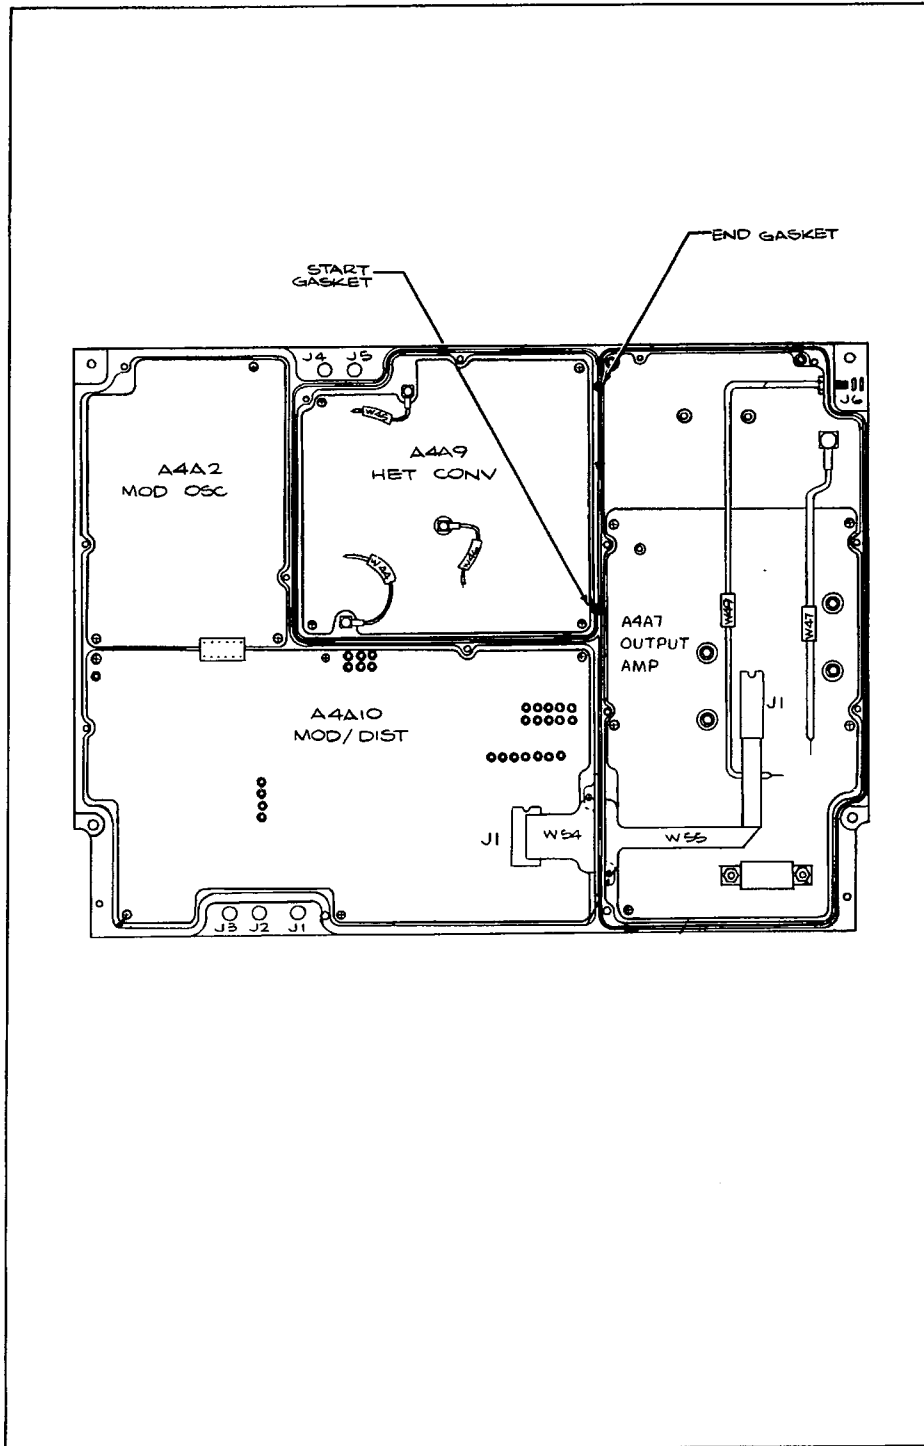

Figure 3-7. RF Gasket Positions - Bottom of Output Module
1. Make sure the RF gaskets are in place (Figure 3-7) and inspect the RF gaskets for damage (areas that are folded over, worn, or pinched).
- a. Start the gasket at the appropriate START GASKET point shown in Figure 3-7.
- c. The end of the gasket should be at the TERMINATE GASKET point shown in Figure 3-7.